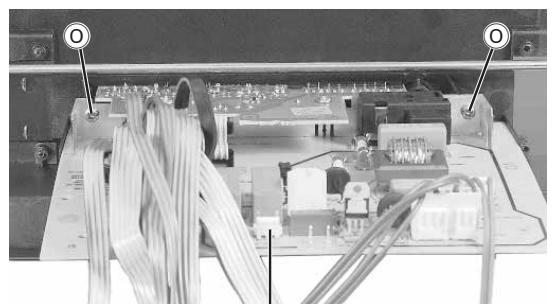

Fig. 17
- Remove the control unit together with the socket board after undoing the 2 screws ⑮ (Fig. 17).
- Connect the power supply lead from the power supply board of the DVD plug-in unit (socket "0101") with the ST-NETZ2 connector (Fig. 17, 18) on the control unit and fit the control unit together with the socket board.